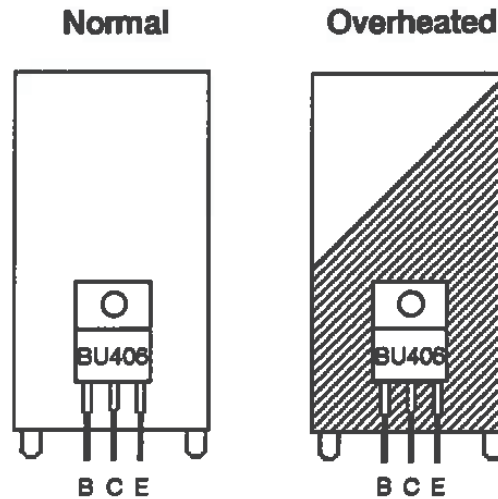

Figure 5-17 Reddish blue metal is a sure sign of overheating.
If you've got severe display distortion, wavy lines, if everything is getting darker and darker, T1 has shorted, and high current is being drawn through Q3 (INTERNATIONAL Q2). In that case, Q3 will have to be changed along with T1, even if by some miracle, Q3 still tests good. But if you only had jittering, ringing, or ozone smell (no severe distortion), Q3 will probably be OK. Whether or not you have to change Q3 depends on how soon you detect the flyback problem. As shown in Figures 5-5 and 5-7, Q3 is located at the top of the analog board, two components to the right of C1 and one component down. It's a TO-220, generic BU-406 power transistor (7 amperes, NPN silicon, 60 watts) attached to a large heat sink. If the circuit board underneath the heat sink is burned, or if the heat sink has turned reddish blue as shown in Figure 5-17, don't waste time with the following test procedure. Either sign is positive proof that the Q3 will have to be changed.
3. Turn on your multimeter and set it to the R \times 100 scale. Refer to Figure 5-17 and Tables 5-5 to 5-6 to test the part.
If the heat sink metal appears reddish blue as illustrated in Figure 5-17, shine it on a wire wheel, or use some metal polish on it. You want the surface of the heat sink to be as smooth and shiny as possible. That way, the new heat sink grease won't have to work as hard. Also, you don't want to give a false impression to the next owner. If someone looks in there later and sees a reddish blue heat sink, the person's going to suspect that Q3 has failed again, when in fact, you never cleaned up from the last time.